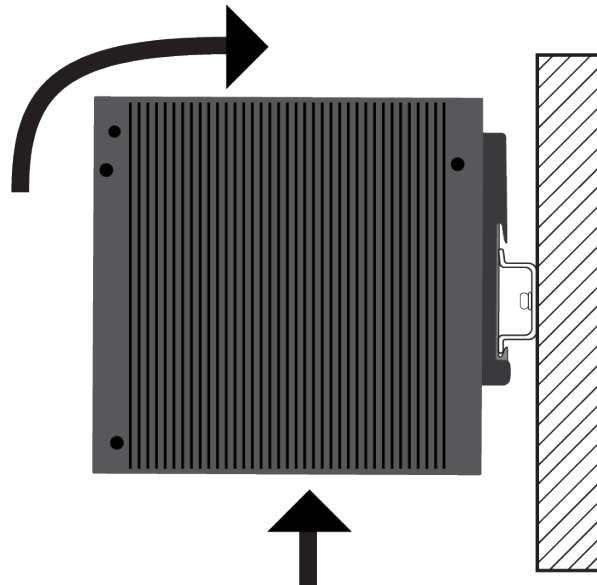

Figure 19. Installing the Switch on a DIN Rail - 2
3. Press upwards on the bottom panel of the switch to compress the springs on the DIN rail bracket, and pivot the switch until vertical. Refer to Figure 19.